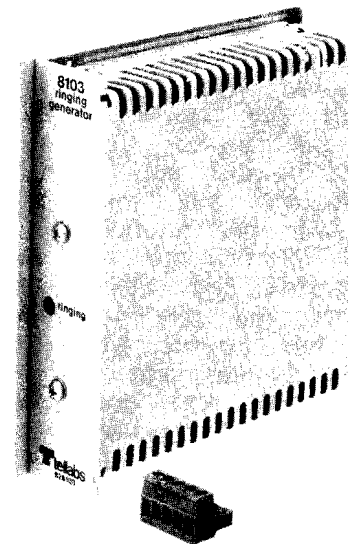

figure 1. 8103 Ringing Generator
1.01 The 8103 Ringing Generator (figure 1) provides switch-selectable 96Vac (nominal) sine-wave ringing voltage, at 20 or 30Hz, from a nominal -48Vdc power source. This output is capable of ringing 10 high-impedance telephone ringers simultaneously. In machine-start applications, the 8103 can be switch-optional to accept an external enable (ground) signal to activate the ringing output. Another switch option on the unit selects either continuous ringing or 2-second-on, 4-second-off interrupted ringing. Designed for direct plug-in installation in one module position of a Tellabs Type 10 Mounting Shelf, the 8103 can also be mounted in an apparatus case via KTU-type rails.